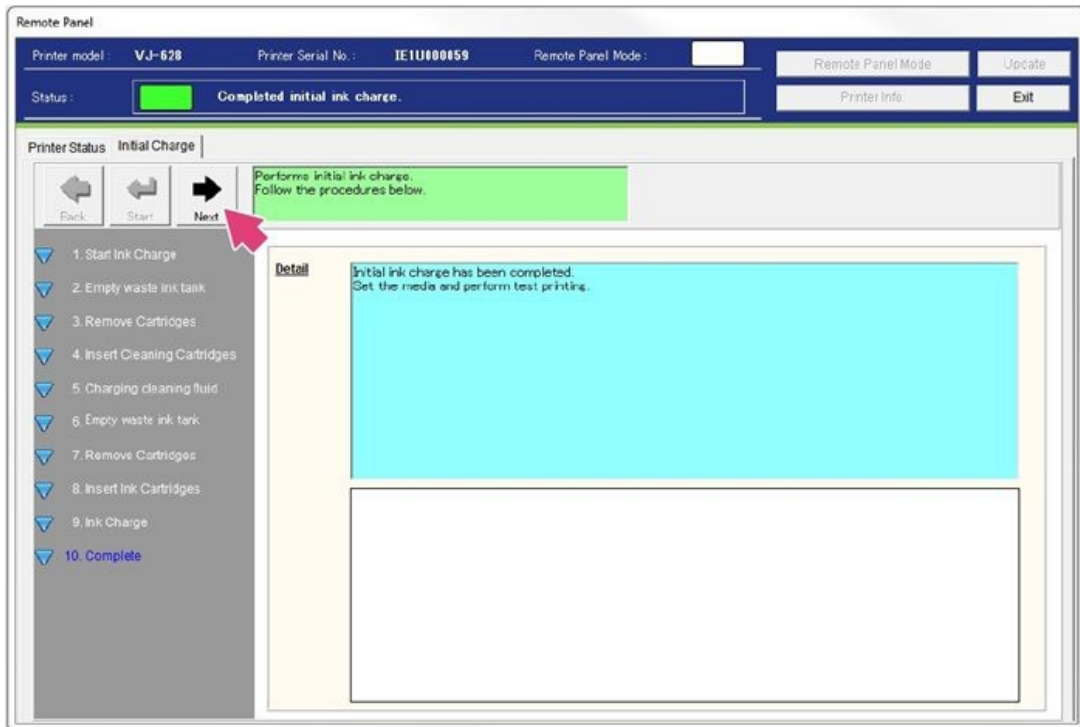

Figure 62
49. Initial ink charge has been completed. Select **Next**. See Figure 62.